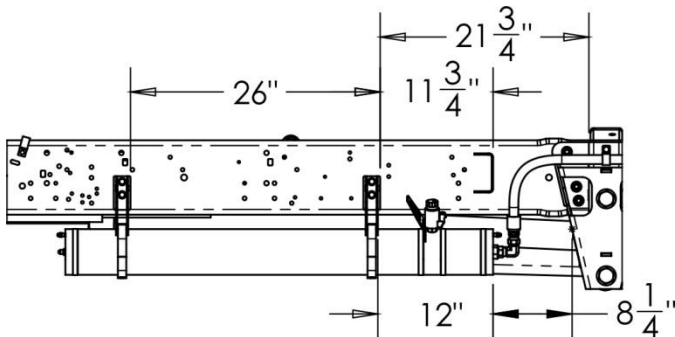

Figure 26. Secondary Volume suggested mount locations
1. Locate (2) Volume Mount Weldments, p/n 10830-013.
2. Place the mounts against the driver side frame, forward of the front hanger. Figure 26 shows suggested locations. The mounts can be relocated based on frame mounts, etc.